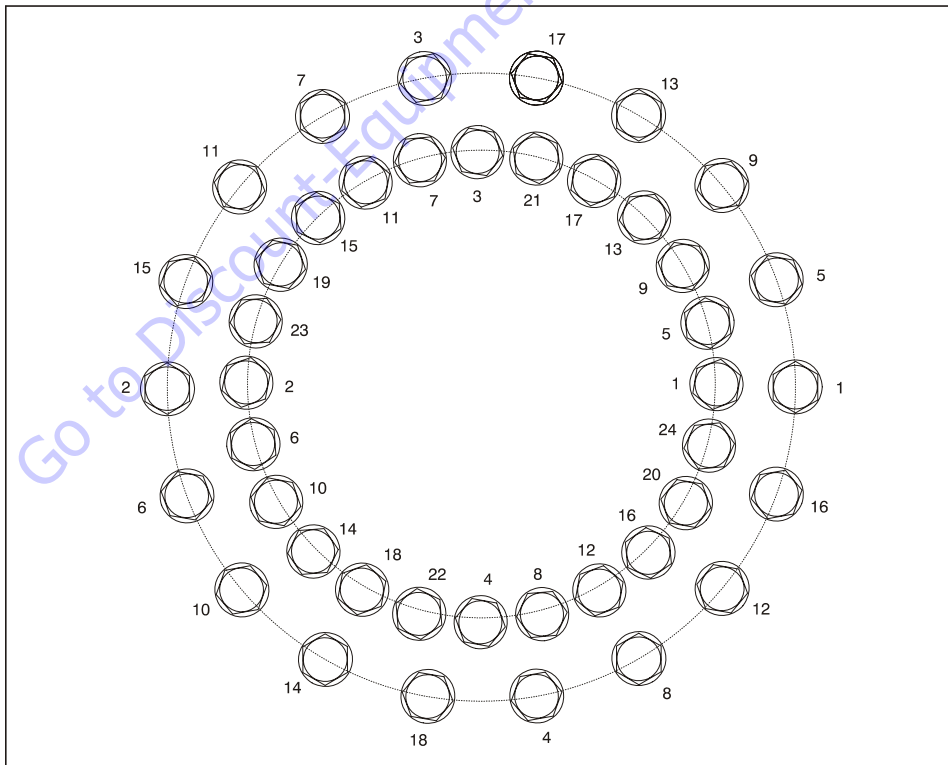

Figure 3-15. Swing Bearing Torquing Sequence
- b. Line up high spot (blue) of bearing with center tooth of worm gear. Set backlash to 0.008 - 0.010 inch (0.20 - 0.25 mm). Tighten capscrews as shown in Figure 3-15., Swing Bearing Torquing Sequence.
- g.** Following the torque sequence diagram shown in Figure 3-15., tighten the bolts to an initial torque of 130 ft. lbs. (175 Nm). Then following the same sequence, tighten to a final torque of 190 ft. lbs. (260 Nm).
- l.** Following the torque sequence shown in Figure 3-15., tighten the bolts to an initial torque of 130